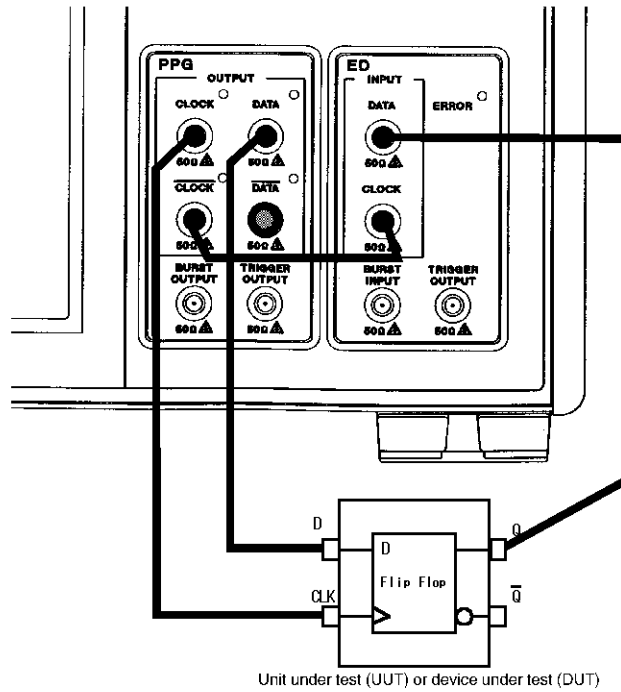

Figure 3-14 Cable Connections between the PPG and ED Module
28. As shown in Figure 3-14, use the supplied coaxial cable to connect to the measurement module on the right side of the front panel. Connect the supplied 50  $\Omega$  terminator to the **DATA OUTPUT** connector that is not used.